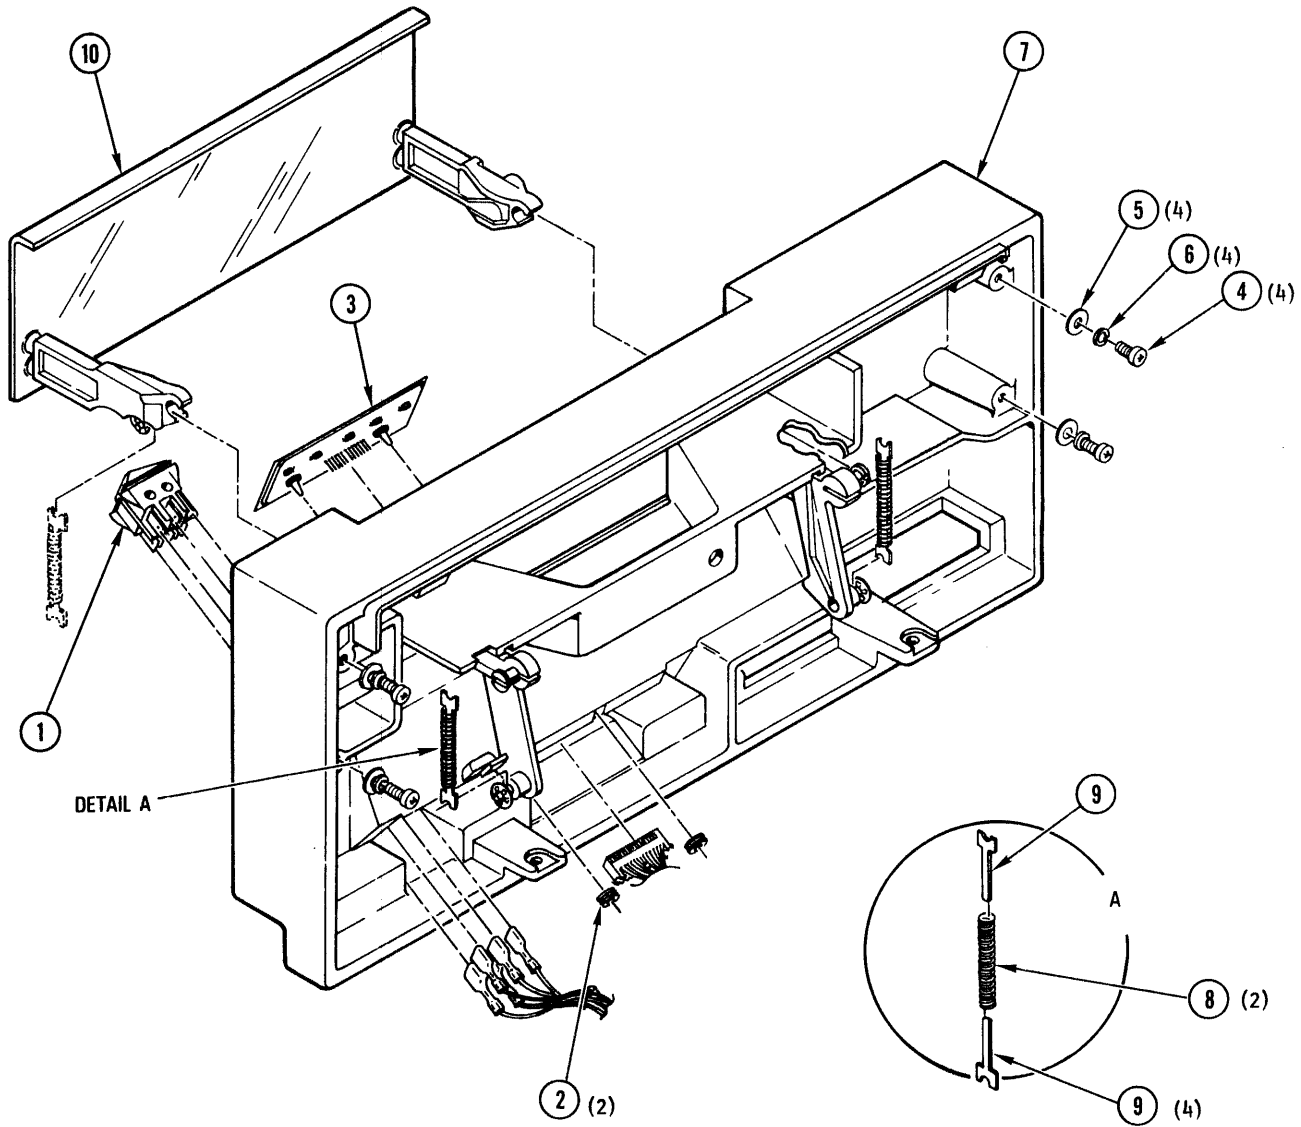

Figure 4-7. Front Panel Assembly
4-19. **Power Switch Replacement.** To replace the power switch (1, Figure 4-7) proceed as follows:
4-20. **Touch Switch Replacement.** To replace the touch switch (3, Figure 4-7), proceed as follows:
4-21. **Front Panel Subassembly Replacement.** To replace the front-panel subassembly (7, Figure 4-7), proceed as follows:
4-22. Removal And Replacement of Door Assembly. To replace the door assembly (10, Figure 4-7), proceed as follows:
- b. Remove two springs (8) and four guides (9), and push door out of front panel, using finger pressure on back of door from under side of panel.
- c. Install door assembly in front panel subassembly by snapping arms onto plastic studs of front panel assembly, as indicated in Figure 4-7.
- d. Assemble guides (9) with springs (8), with flat surfaces of guides in contact with each other.